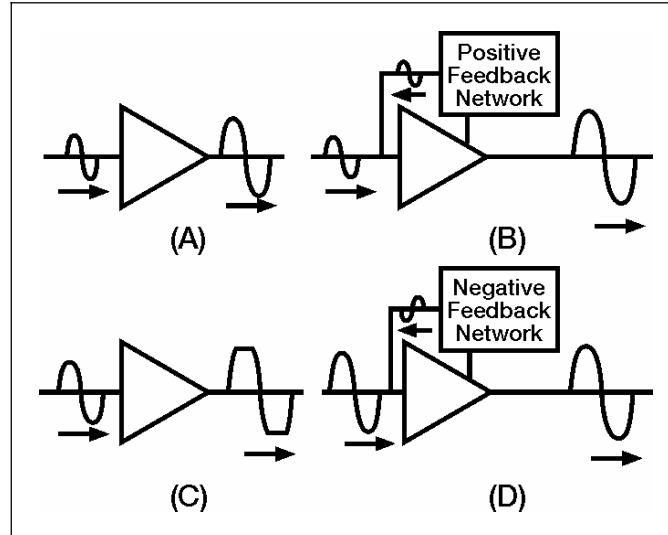

Figure 5-16. Feedback Uses in Amplifiers
5-66. Figure 5-16 shows the way in which feedback can be used to provide the maximum output signal without a loss in fidelity. In view (A), an amplifier has good fidelity, but less gain than it could have. By adding some positive feedback (view (B)), the gain of the stage is increased. In view (C), an amplifier has so much gain and such a large input signal that the output signal is distorted. This distortion is caused by the amplifying device becoming saturated and cutoff. By adding a negative feedback system (view (D)), the gain of the stage is decreased and the fidelity of the output signal improved.